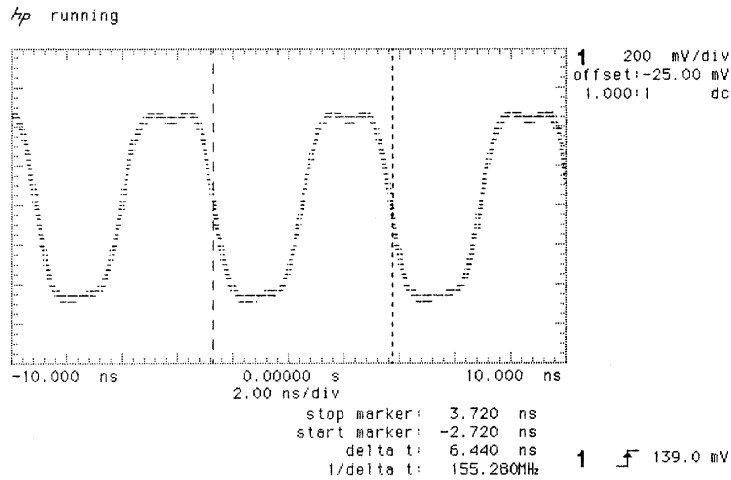

Figure 3-61
- Adjust the Oscilloscope controls to display the waveform as shown in Figure 3-61, STS-3 All Zeros Pattern Example.